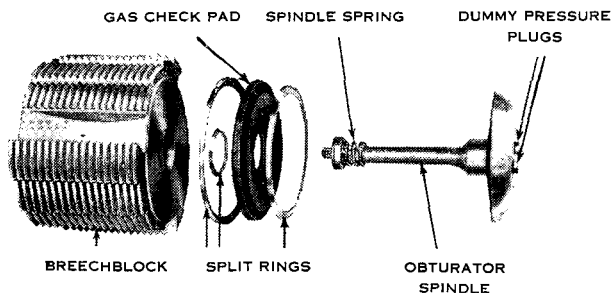

Figure 18. Breechblock and obturator.
39. OBTURATOR. a. Wash or brush the primer seat and vent hole in the obturator spindle (fig. 18) to remove every trace of powder fouling or gummy oil, then wipe dry and oil. In cleaning, use the reamer, brush, and vent cleaning tools provided for this purpose. The slightest accumulation of fouling in the primer seat will cause the primer to enter with difficulty; likewise, difficulty will be experienced in extracting the primer, with the possibility of breakage of parts.